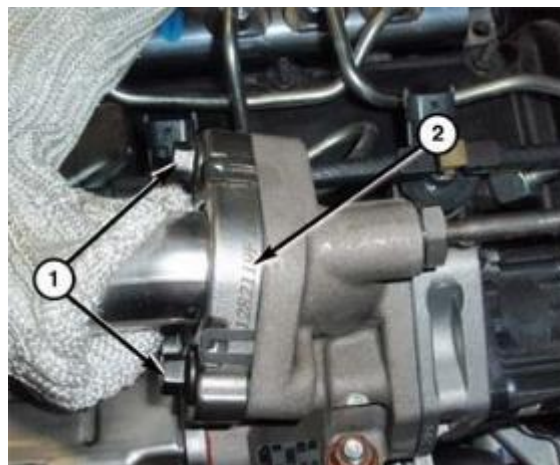
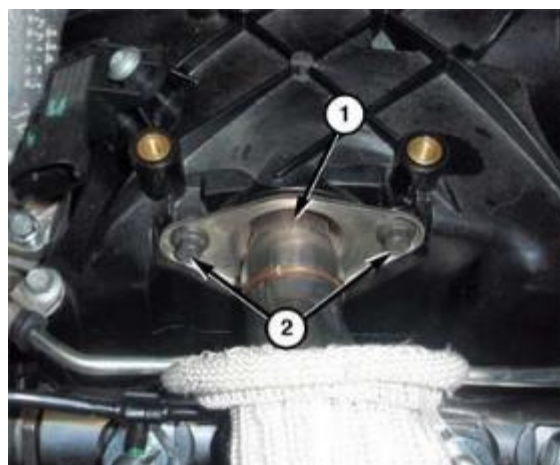

Figure 9 - Upper EGR Tube Bolts
Figure 10 - Upper EGR Tube Bolts at Intake
12. Remove the upper EGR tube bolts (1) (Figure 9) and (2) (Figure 10).
47. Install the EGR tube (1) to the intake manifold. Tighten the bolts (2) to 11 N·m (8 ft. lbs.) (Figure 10).